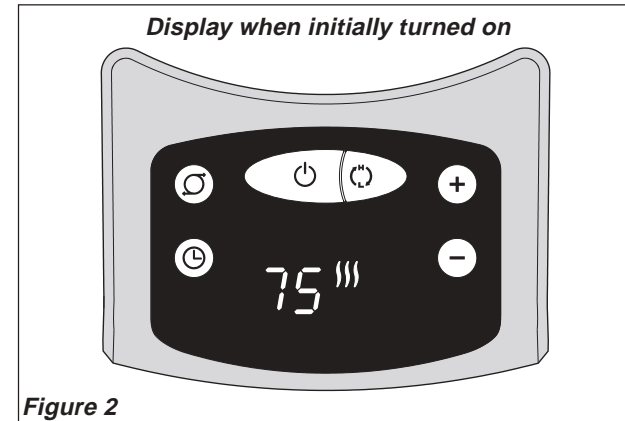

Figure 2
7. Upon turning the Heater on, the unit will be in HIGH heat (⦿) (1500 Watts) and will display the current room temperature (Figure 2)